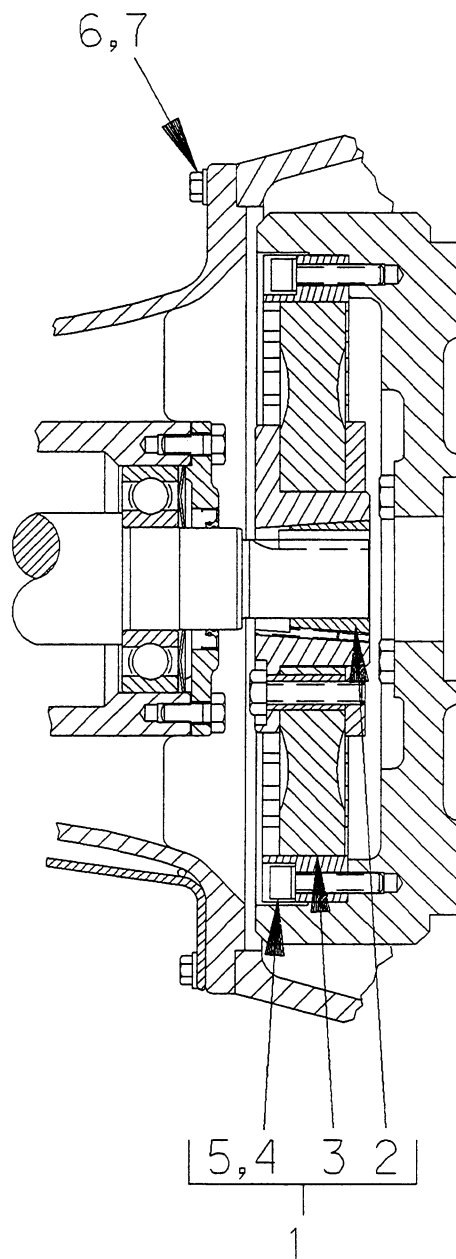

Figure 3. Drive Assembly For Pump Model 88B2-(SAE 4/10)
(Figure 3)
Install the shaft key (22, Figure 2) in the shaft keyway. Position the flexible portion of the coupling assembly (3) on the shaft as shown in Figure 3.